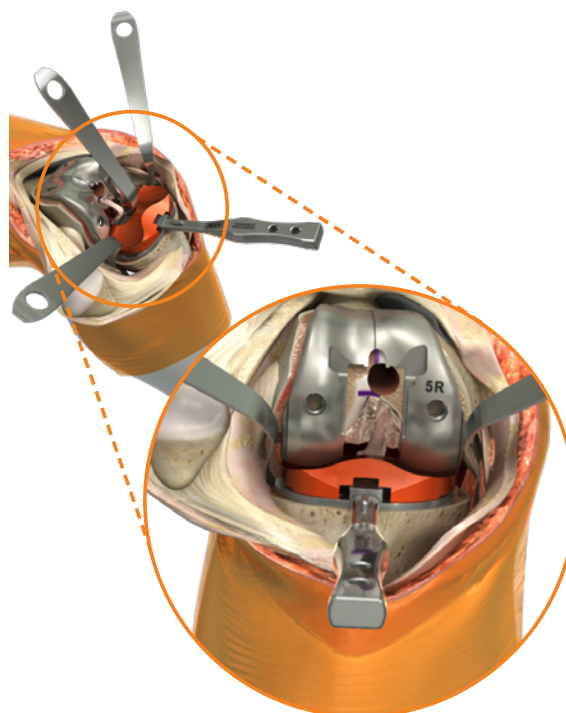

Figure 42
2. Place the appropriate size and desired thickness Articular Insert Trial onto the Tibial Trial. For Insert thicknesses greater than 9mm select the appropriate shim. Attach the Quick Connect Handle to the Tibial Trial and insert the assembly into the knee (Figure 42).